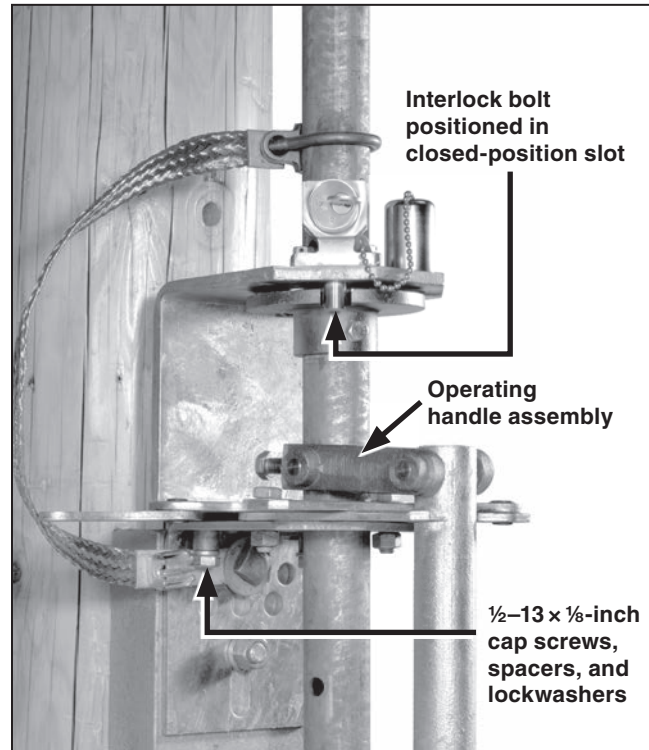

Figure 38. Fasten the operating-handle assembly.
**STEP 36.** Fasten the operating handle assembly to the lowest vertical operating-pipe section using the piercing set screws to secure the operating handle assembly. See Figure 38.